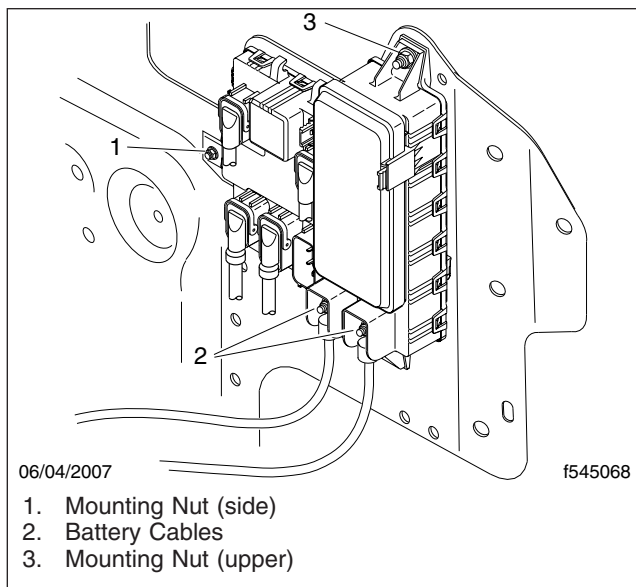

Fig. 1, SAM Chassis
8. Remove the three nuts that secure the SAM Chassis to the frontwall. See **Fig. 1**. Remove the SAM Chassis.